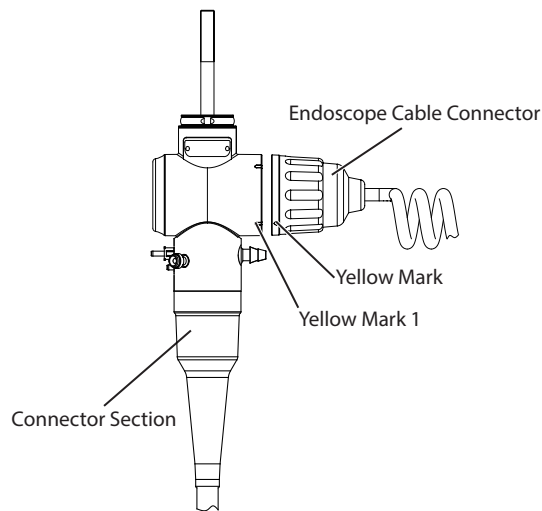

Figure 3-15 Connecting the Endoscope Cable 1
1. As shown in Figure 3-15, align the yellow mark on the endoscope cable connector with the yellow mark 1 on electrical connector of the endoscope, and insert the connector into the endoscope.